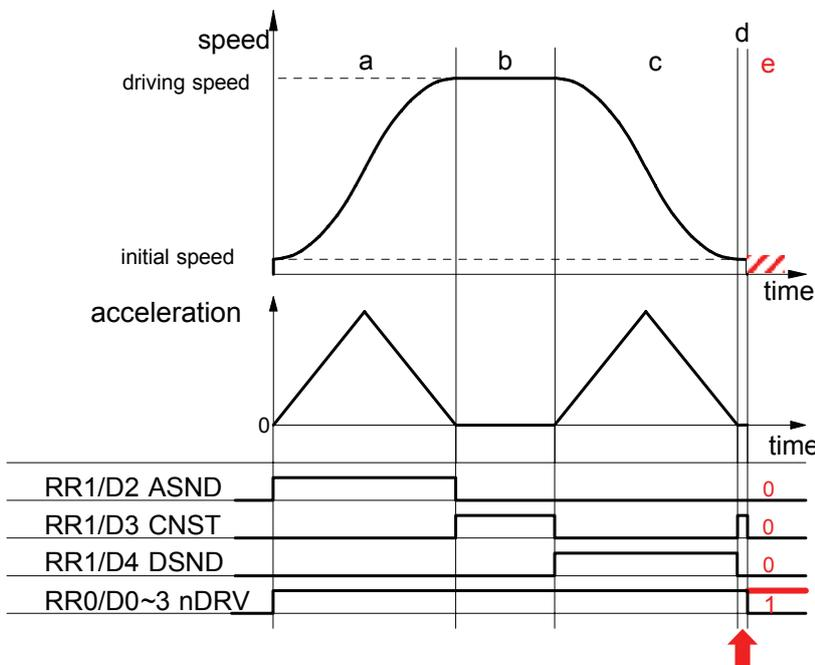

Figure 3. Status of deceleration shown by RR1 register
Deceleration status of accelerating(ASND), constant speed driving(CNST) and decelerating(DSND) can be read out according to RR1 register of IC. The status is shown as Figure 3. as below ;
The timing when the trouble may possibly happen is shown as “d” on Figure 3. At this time, status of deceleration is constant speed driving(CNST=1). Besides in case the trouble such as outputting pulse continuously happens, all of ASND, CNST and DSND will become 0 even though it's driving(RR0/nDRV=1).
Basically once deceleration starts, it isn't necessary to execute deceleration stop command. Therefore deceleration stop command should be prohibit. See nRR1/D4(DSND) normally to know it's decelerating or not. Timing when the trouble happens is in “d” as shown on Figure 3 if deceleration stop command is executed. In “d” DSND status bit is 0 and CNST status bit is 1. Therefore the following two(2) solutions will be proposed.
(1) When interruption from IC can be used
Terms when deceleration stop command should be executed in accelerating and constant speed driving such as "a" and "b" on Figure 3. Status of deceleration for both "d" (timing when the trouble happens) and "b" (constant speed driving) is same as constant speed driving as shown on Figure 3. But there is difference of driving speed between two. Driving speed in "b" is near that of setting driving speed. Driving speed in "d" is near that of initial speed. Therefore before driving starts, prepare judgmental speed which is middle one between initial speed and setting speed ( $(\text{Driving speed} - \text{initial speed})/2 + \text{initial speed}$ ). When execute deceleration stop command during driving, make sure status is accelerating(ASND=1) or constant speed driving(CNST=1) and driving speed is same or faster than judgmental speed.
Constant speed area ("b" area) on Figure 3 is set as occurrence factor of interruption. But this interruption is also happened when there is "d" area just before driving stops on Figure 3 such as when driving speed reaches initial speed or when acceleration becomes 0(zero). There should occur "d" area definitely if the trouble is happened just before driving stops, driving speed hasn't reached initial speed yet, acceleration becomes 0 and decelerating stop requirement is executed. The measure is to judge if the trouble happens or not in the timing of interruption when "d" area ends.
- ① Check if driving goes out constant speed area or not. If RR3/D5(C-END) bit of driving axis is 0, there are other interruption factors. Execute those interruption processing.
- ② Check if driving goes into decelerating area or not. If it's RR1/D4(DSND)=1, make it finished as it goes because driving goes into "c" area from "b" area on Figure 3. If it's RR1/D4(DSND)=0, move it to ③ processing because driving has gone out "d" area.
- ③ Check if driving has finished or not. If it's finished, make it finished as it goes because driving has finished normally. But if it's not finished yet, surely trouble have happened because status is shown as it's still driving even though driving has gone out "d" area.
- ④ Check if hard limit is ON or OFF. Since RR1/D12 bit becomes 1 if + limit is ON and RR1/D13 bit becomes 1 if - limit is ON, if it's D12=1 or D13=1, judge forward limit is ON.
- ⑤ If trouble has happened, it becomes ASND=CNST=DSND=0. Check them all.
- ⑥ Execute sudden stop command(27h).
(2) When interruption can't be used
In "d" area on Figure 3, if forward limit is active, the trouble will happen, more exactly saying, it will seldom happen. There isn't any method to avoid it before it happens. So immediately after the trouble happens, take means to stop driving. If the trouble happens ("e" area on Figure 3), status keeps driving(RR0/nDRV=1), status of acceleration/deceleration is 0 in ASND, CNST, DSND. This is completely abnormal state. So the example of measure is shown as follows;